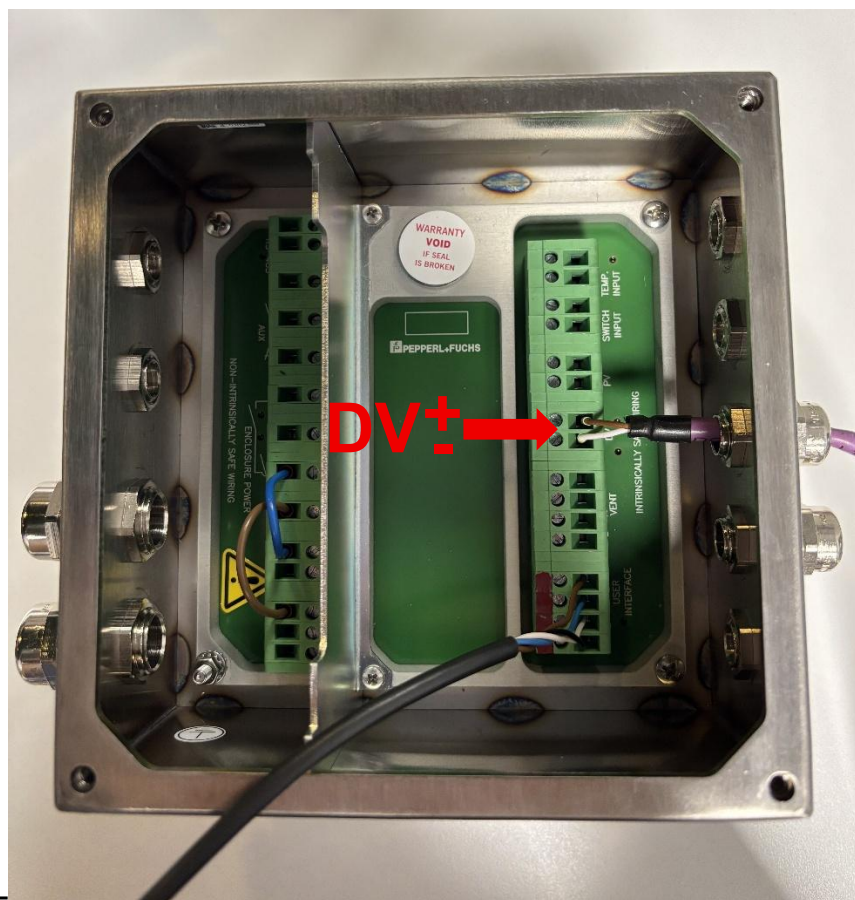
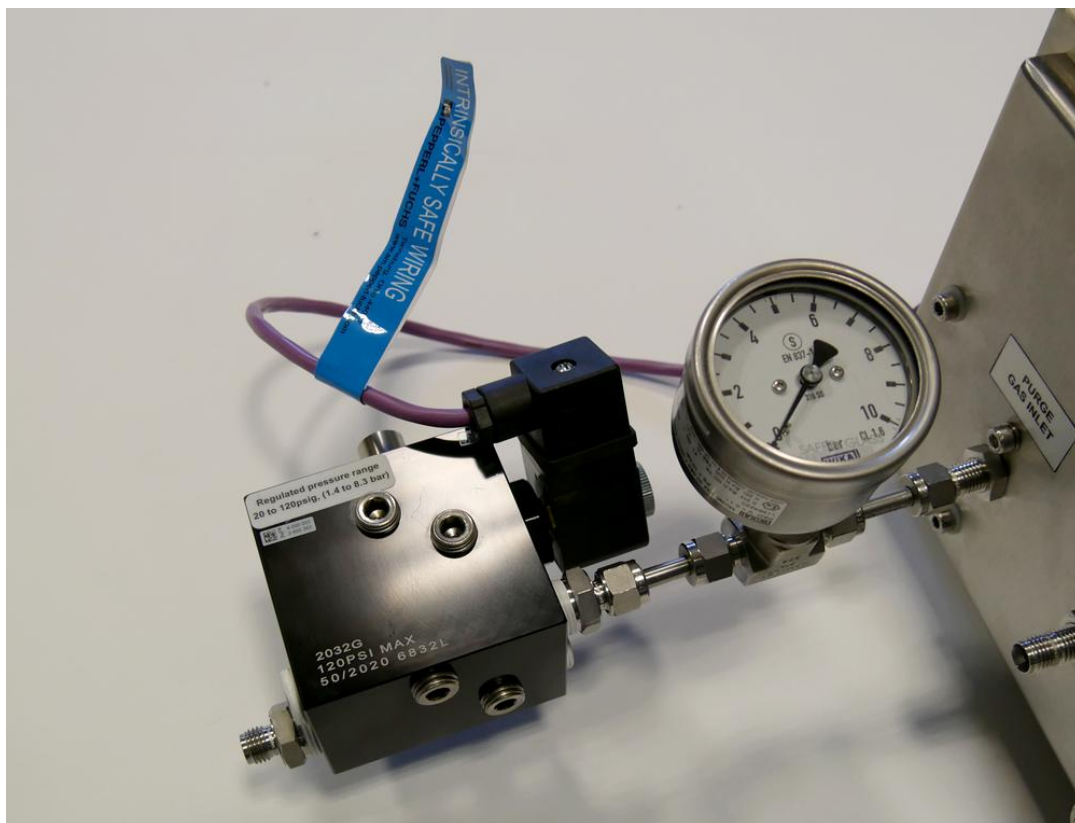

Figure 165. Manifold connectors – controller side.
Figure 166. Manifold installed.
3. Install the manifold block control signal cable (7) (3x1mm² cable) between the 6500 “DV” terminals and the manifold block. Pass the cable through the cable gland on the manifold block and screw on the wires as shown on **Figure 165**.
5. Put the manifold control signal cable through M12 cable gland of the controller (**Figure 165**). After installation (**Figure 166**), affix the included blue stickers with the words “Intrinsically safe wiring” to both ends of the cable.